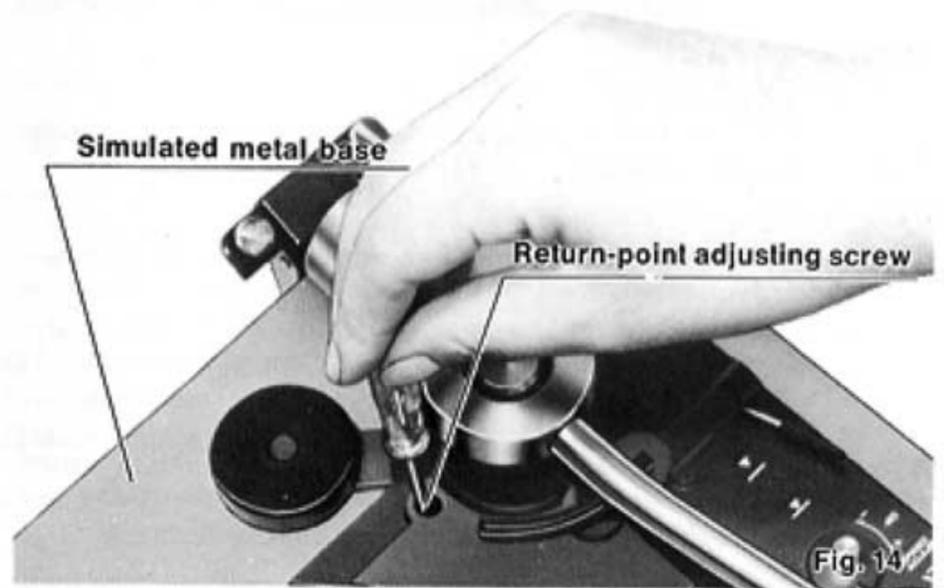

Fig. 14
③ TONEARM RETURN POINT
*Rotate this screw to correct for either condition. (See Fig. 14) If the tonearm returns its rest too soon.—Turn this screw counterclockwise.